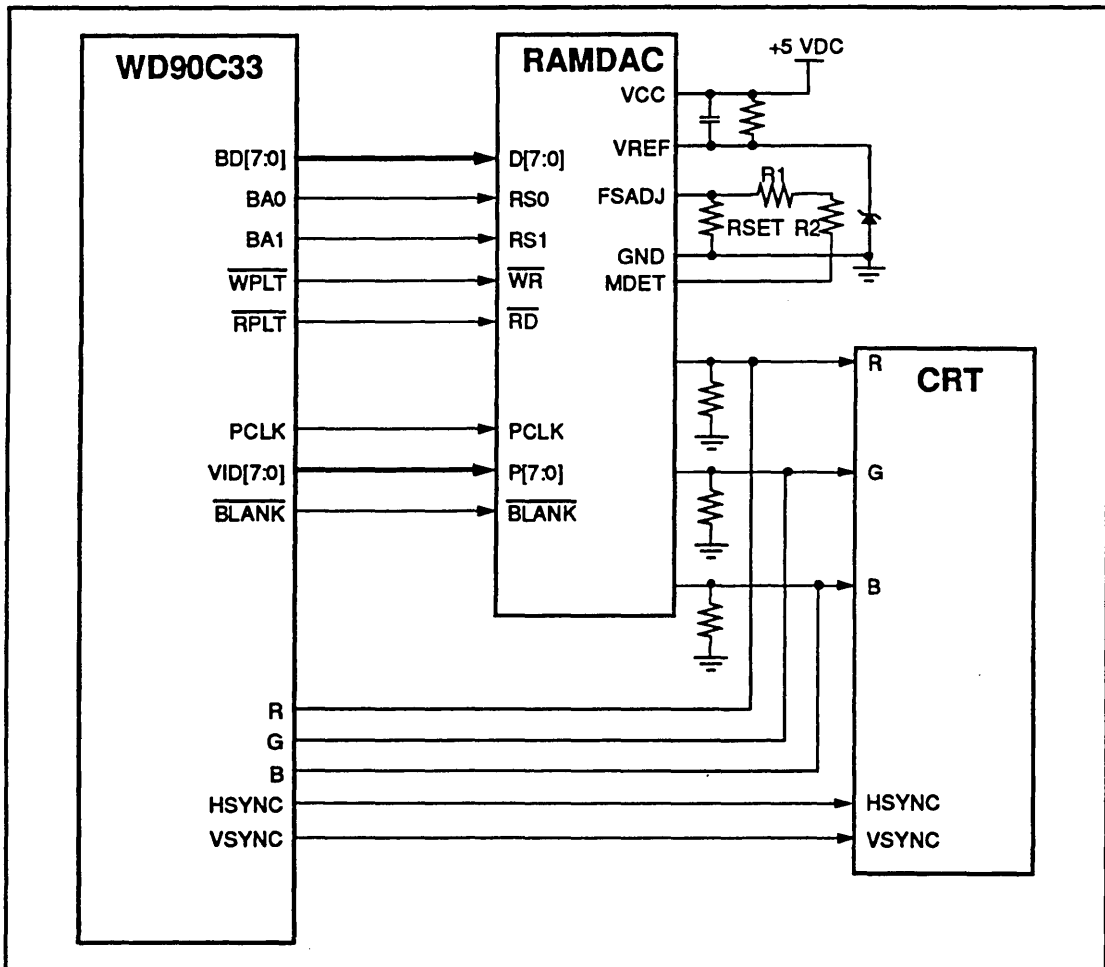

FIGURE 3-9. EXTERNAL RAMDAC INTERFACE
- Figure 3-9. External RAMDAC Interface
Figure 3-9 shows the interface between an external RAMDAC and the WD90C33 Controller.